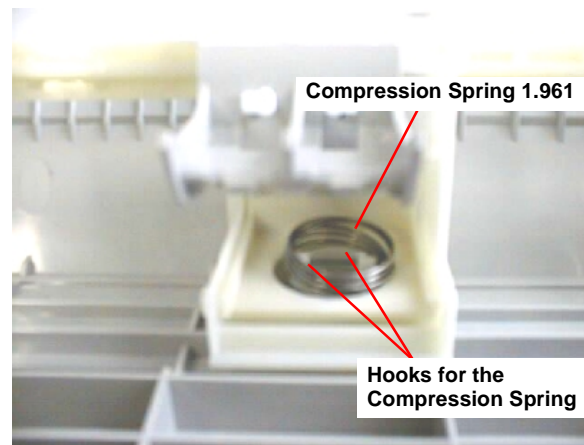

Figure 4-41. Setting the Compression Spring 1.961
- 8) Using tweezers, carefully take out the right and left compression springs 1.961 that are fixed between the Paper Feed Roller Assembly and the Hopper Assembly. Refer to Figure 4-41.